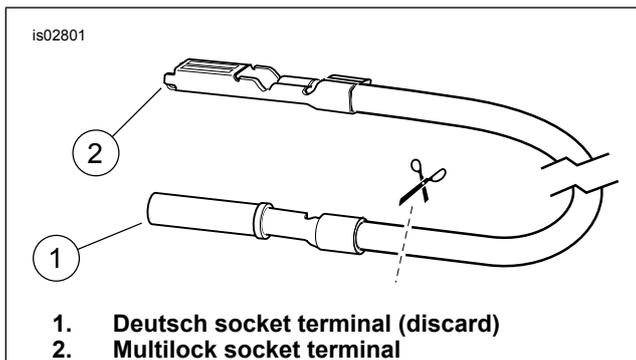

Figure 4. Cut Deutsch Terminal From Adapter Lead
- Cut off and discard the terminal on the pink (PK) **mini-tach wire harness** signal lead.
- Obtain the signal adapter wire lead (12) and a sealed splice connector (6) from the kit. See Figure 4. Cut the Deutsch socket terminal from the signal adapter wire lead, close to that terminal. Splice the signal adapter wire lead to the mini-tach wire harness signal lead according to the instructions in the service manual appendix.